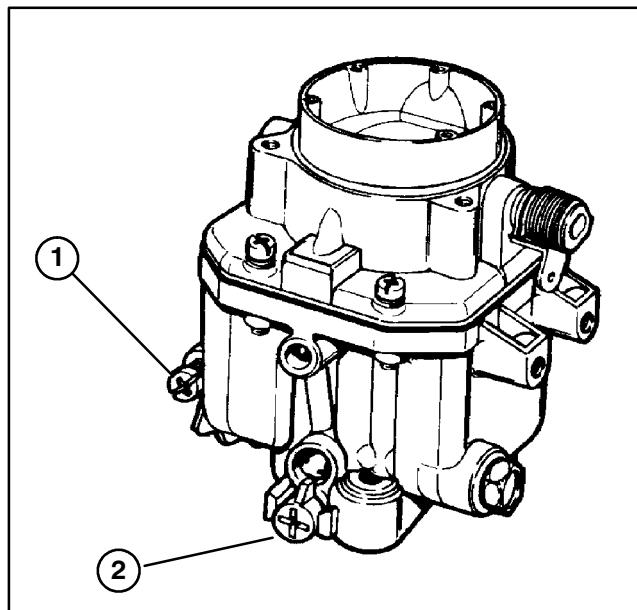

Figure 25
ADJUSTING CARBURETOR (Fig. 25 – 26)
3. Move the throttle control to the SLOW position and check low idle speed setting (1500–1800 rpm), then, move the throttle control to the FAST position and check high speed setting (3450–3550 rpm) to determine if throttle control linkage is allowing full travel at engine. With throttle control in FAST position, control lever should not be touching control panel and engine mounted throttle lever (Fig. 25) should be touching high speed stop. Loosen cable clamp and adjust cable so lever touches stop.